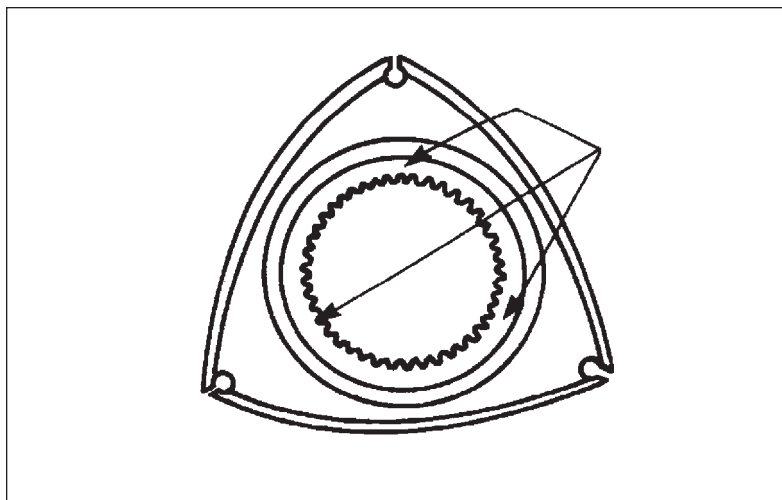

Figure 5
Using a 50-75 mm (12A engines) or 75-100 mm (13B engines) micrometer, measure the rotor at the three (3) points shown in Figure 5. To calculate the clearance between the side housing and rotor, use the following formula: